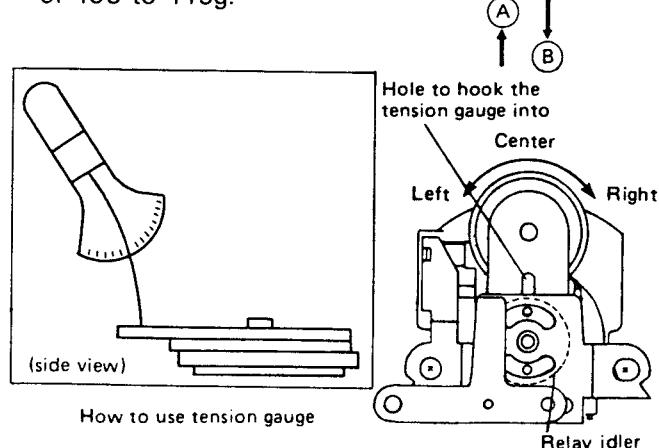

Figure 14.
2. Move the reel idler to its center position as shown in Fig. 14.
3. Using a tension gauge, push the reel idler in the direction of arrow  $\rightarrow$  (A) in Fig. 14, so that the reel idler moves away from the relay idler.
4. Release the force gradually in the direction of arrow  $\rightarrow$  (B) in Fig. 14, so that the reel idler touches the reel motor pulley again. Check that the reading on the tension gauge is within the specified range of 105 to 145g.